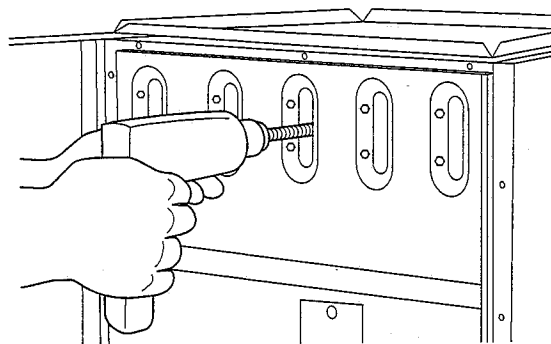

Fig. 5—Cleaning Heat Exchanger Cell
- (3.) Insert brush end of cable into upper opening of cell and slowly rotate with drill. **DO NOT** force cable. Gradually insert at least 36 in. of cable into 2 upper passes of cell. (See Fig. 5.)